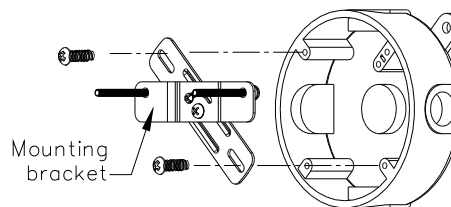

FIGURE 9
- (1) Switch off the power source or wall switch.
- (2) Line up the holes on the mounting bracket with the holes on your junction box. Using fitting screws (depending on size of the holes in your junction box), attach the mounting bracket to your junction box. (FIGURE 9).